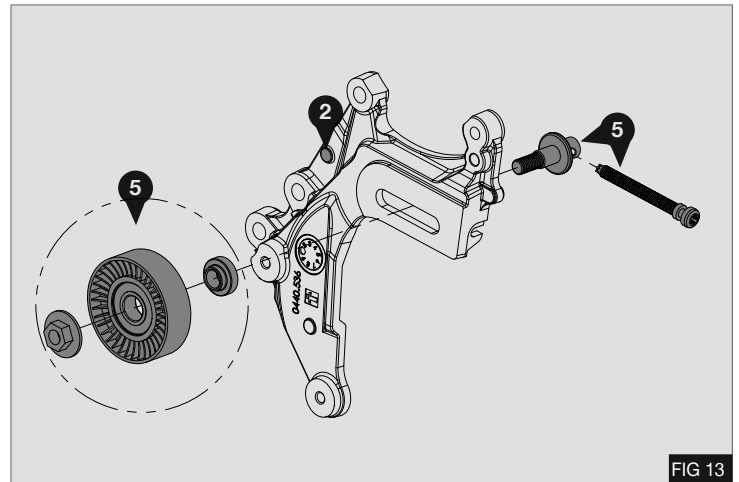

FIG 13
- Assemble the tensioner assembly as shown opposite using bracket (2) and tensioner assembly (5) – Fig 13